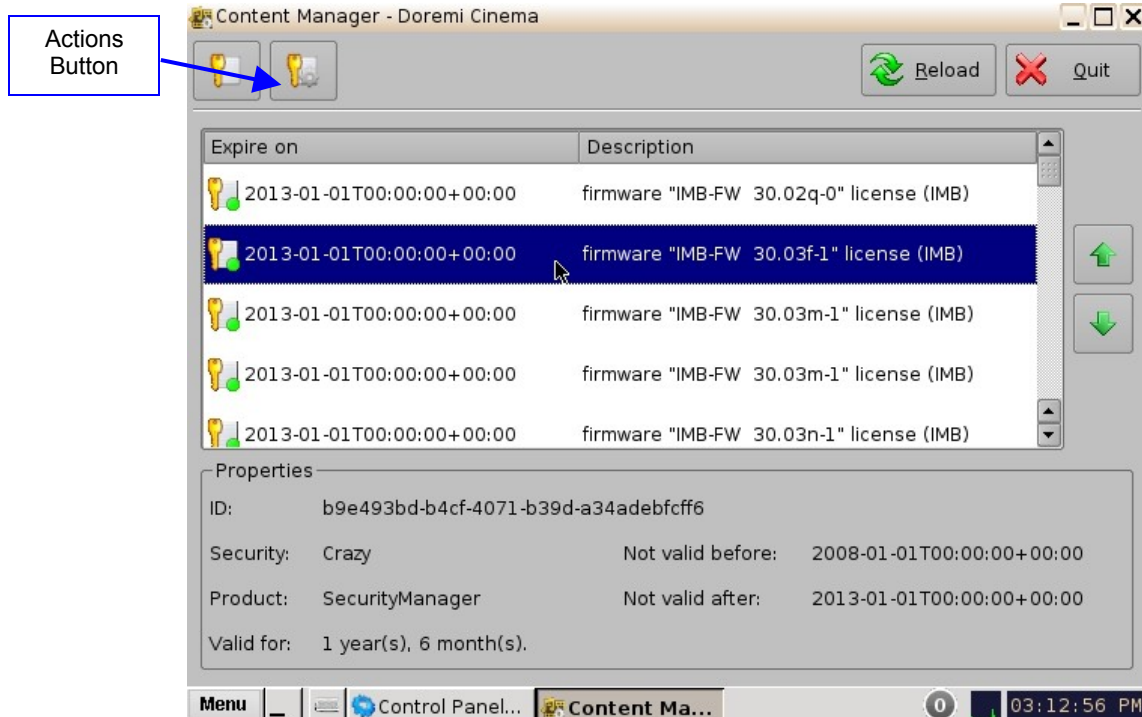

Figure 83: Licenses Page
- Select the license from the list and then click on the Actions button (Figure 83).